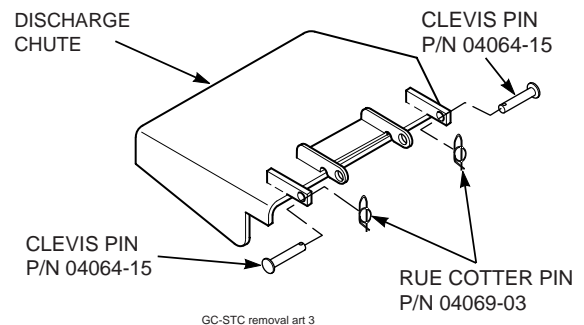

**Figure 9**
5. Remove the two (2) pins holding the hood assembly to the mounting posts on the rear of the machine. See Figure 9.